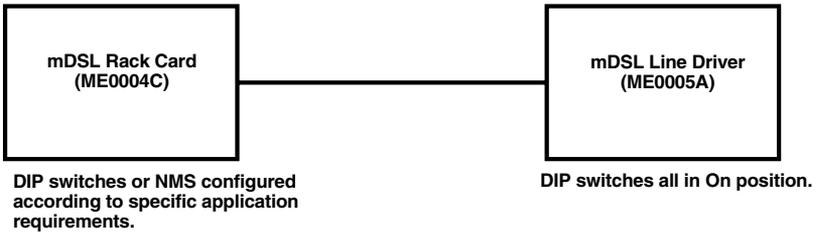

Figure 3-3. Typical Plug-and-Play application.
1. Set the mDSL Rack Card (CO) to either internal or external clocking mode as defined by the application.
2. Set the mDSL Line Driver (CP) to “Plug-and-Play CP” by setting all S2 and S3 DIP switches in the ON position as described in Figure 3-3.